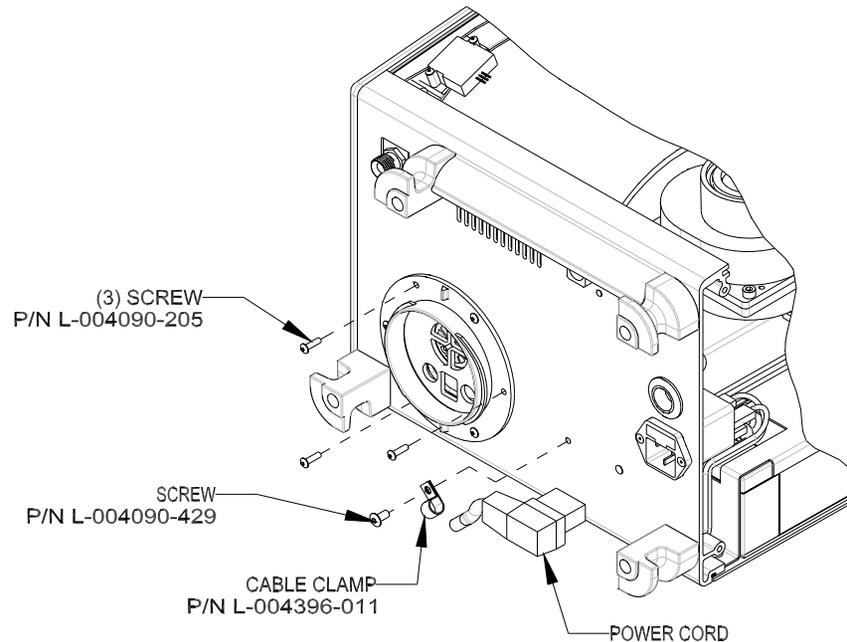

FIGURE 5-3.
- Use a torque driver set at 5 in-lbs with a 5/64-in hex bit to secure the manifold to the rear panel assembly with 3 screws, 6-32 x 1/2-in (P/N L-004090-205). See Figure 5-3.